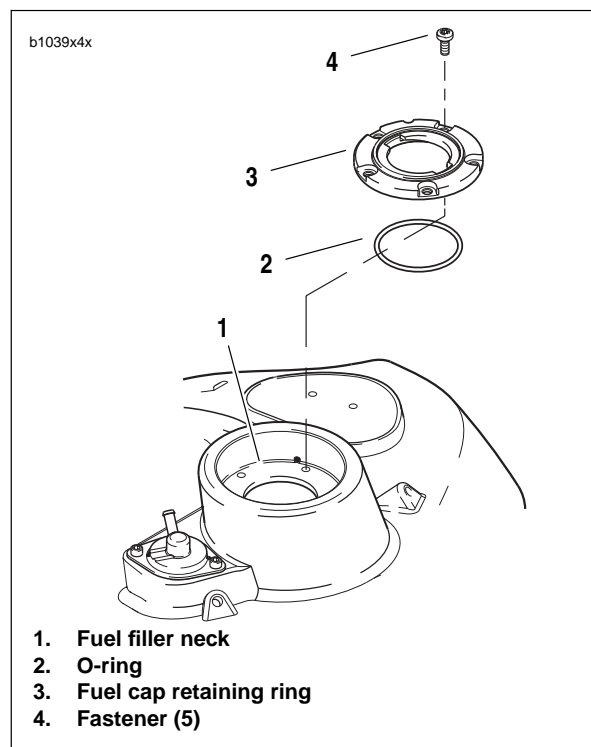

Figure 4-102. Fuel Cap Retaining Ring
3. See Figure 4-102. Remove fasteners (4) securing fuel cap retaining ring (3) to fuel filler neck (1).
4. Remove fuel cap retaining ring and o-ring (2). Discard o-ring.